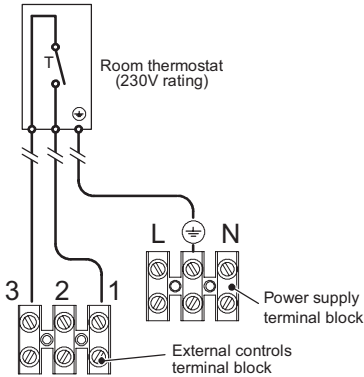
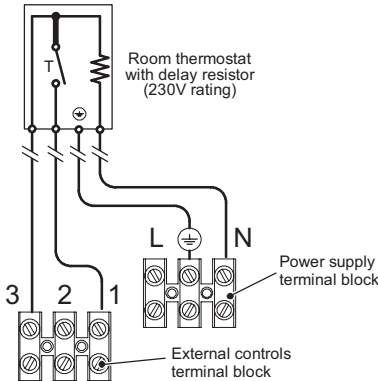

Fig. 6.18
Fig. 6.19
- Connect the room thermostat between terminals 1 and 3 as shown in Fig. 6.18 or Fig. 6.19.